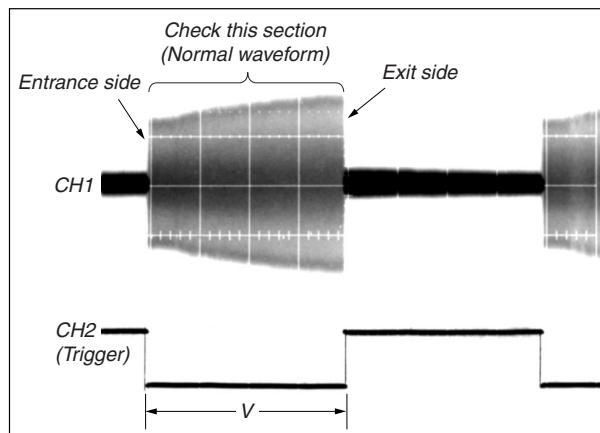

Fig. 5-2-1.
- Channel 1: VC-278 board, CN1108 Pin ⑤
- External trigger: VC-278 board, CN1108 Pin ⑧
- 9) Check that the oscilloscope RF waveform is normal at the entrance and exit. (Fig. 5-2-1.)